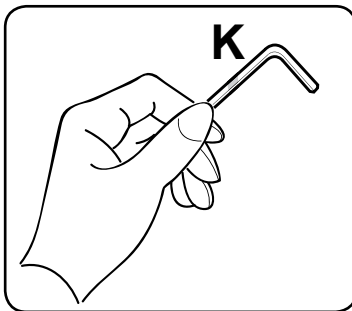

fig. 7.1
- 7** **NOTE:** This product is factory set for a 19" (483 mm) monitor. When changing the size of the monitor, adjust the control bolt with 4 mm allen wrench (K) as shown in figure 7.1.